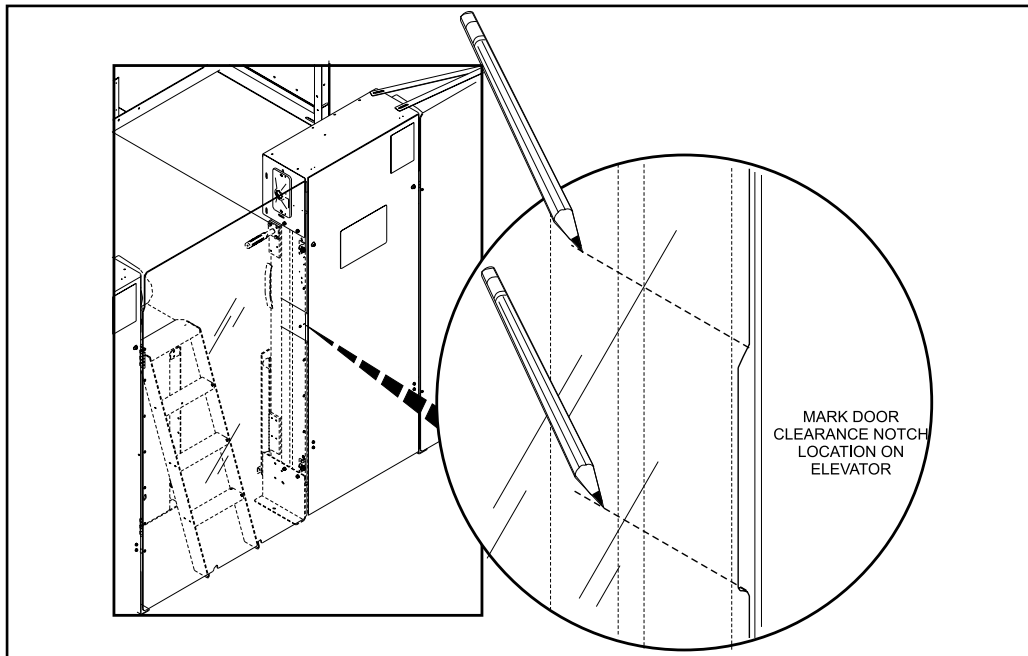

Figure 3
1. Close rear door and mark location of door's clearance notch on the side of the elevator. Refer to *Figure 3*.